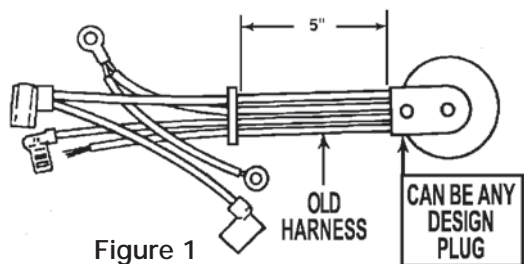

Figure 1
3. Using the old harness with any design plug, cut 5 inches from the end of the plug. Strip the insulation from each wire. See Figure 1.